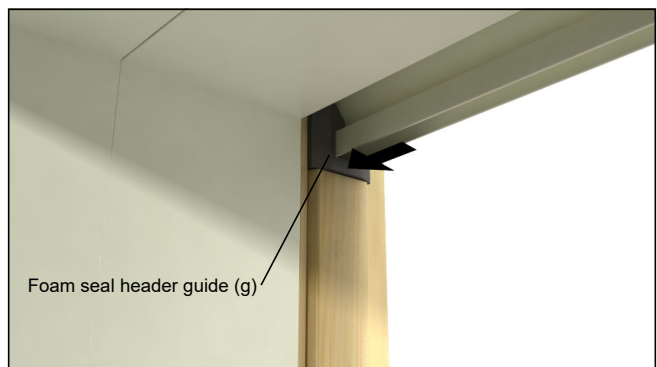

Figure 53
14. Install foam seal at the header(s) as shown. See figure 53.